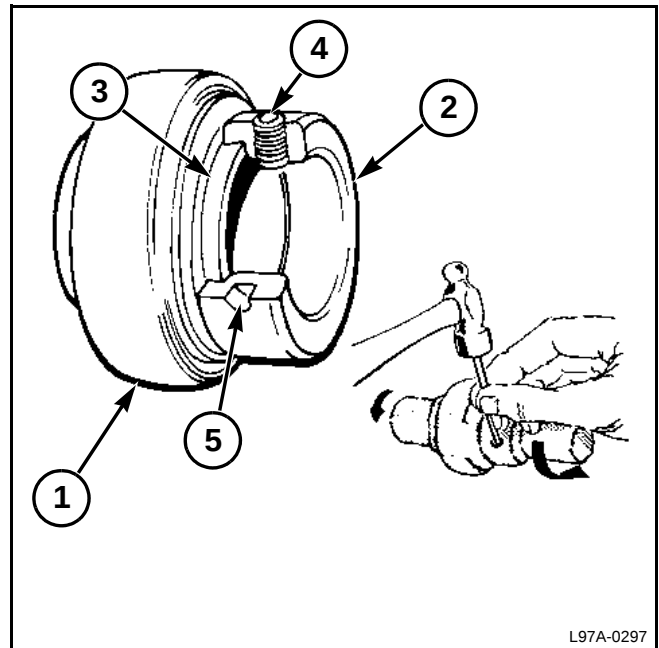

FIG. 33
FIG. 33: The bearing (1) is held in position on the shaft by a locking collar (2). The locking collar has an eccentric counterbore. This counterbore engages the eccentric end of the bearing inner race (3) when the bearing is assembled. The locking collar is rotated on the bearing to lock the assembly on the shaft. The assembly grips the shaft tightly with a positive locking action that increases with use. A set screw (4) in the locking collar applies additional locking pressure. A set screw (4) in the locking collar applies additional locking pressure.